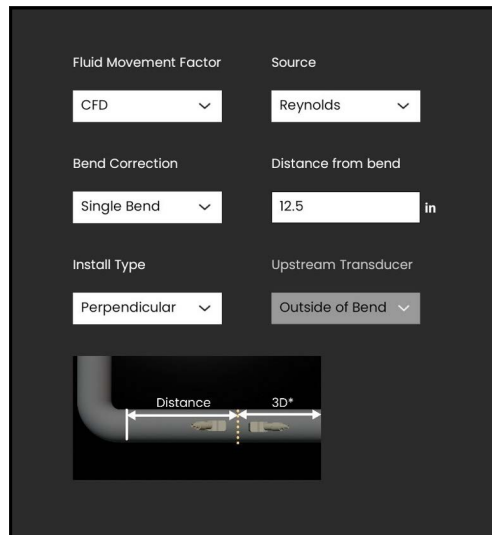

Figure 99: Perpendicular Option
7. If the plane formed by the 2 transducers is perpendicular to the plane formed by the bending pipes, PERPENDICULAR should be selected as shown in *Figure 99*.